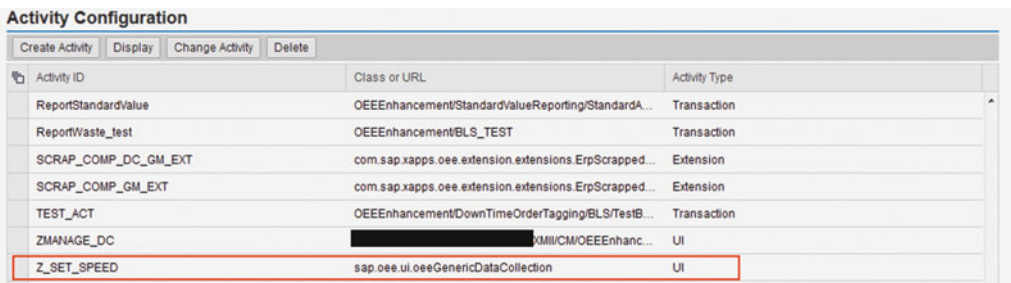

Figure 5-26. Activity configuration: create custom UI activity
7. Save the activity, and the activity will be listed under the Activity configuration screen as shown in Figure 5-26.